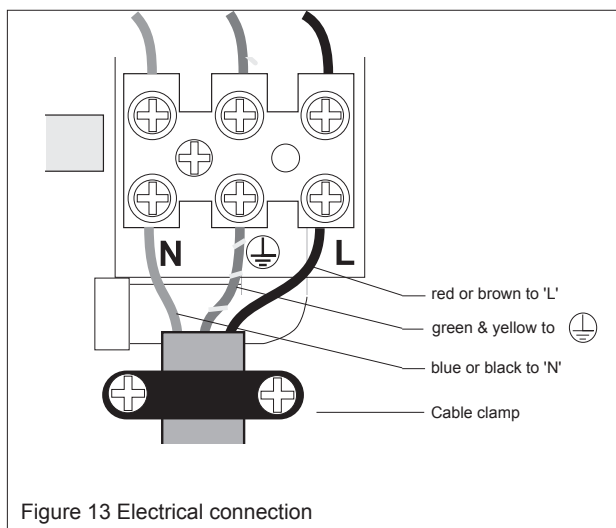

Figure 13 Electrical connection
- 6.5 Remove the screws and clamping bar from the cable clamp - see Figure 13 below.
- 6.8 Strip the insulation from the cores and make connections - see Figure 13 below.